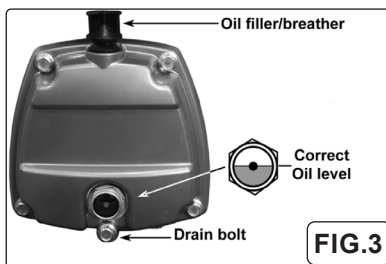

FIG.3
Remove the transit plug from the oil filler aperture, pour oil into the aperture until it has reached the correct level on the sight glass (fig.3). Fit the oil filler/breather supplied into the aperture.
- 5.2. Check the oil level by looking through the sight glass (fig.3).
- a) Replace the lubricating oil. Remove the oil filler/breather and unscrew the drain bolt (fig.3), drain the oil into a suitable container. Drain when the compressor is hot so that the oil drains rapidly and completely. Incline the compressor to ensure complete drainage. Replace the drain bolt and refill with fresh oil through the filler aperture. **DO NOT** overfill. Replace oil filler/breather (fig.3).